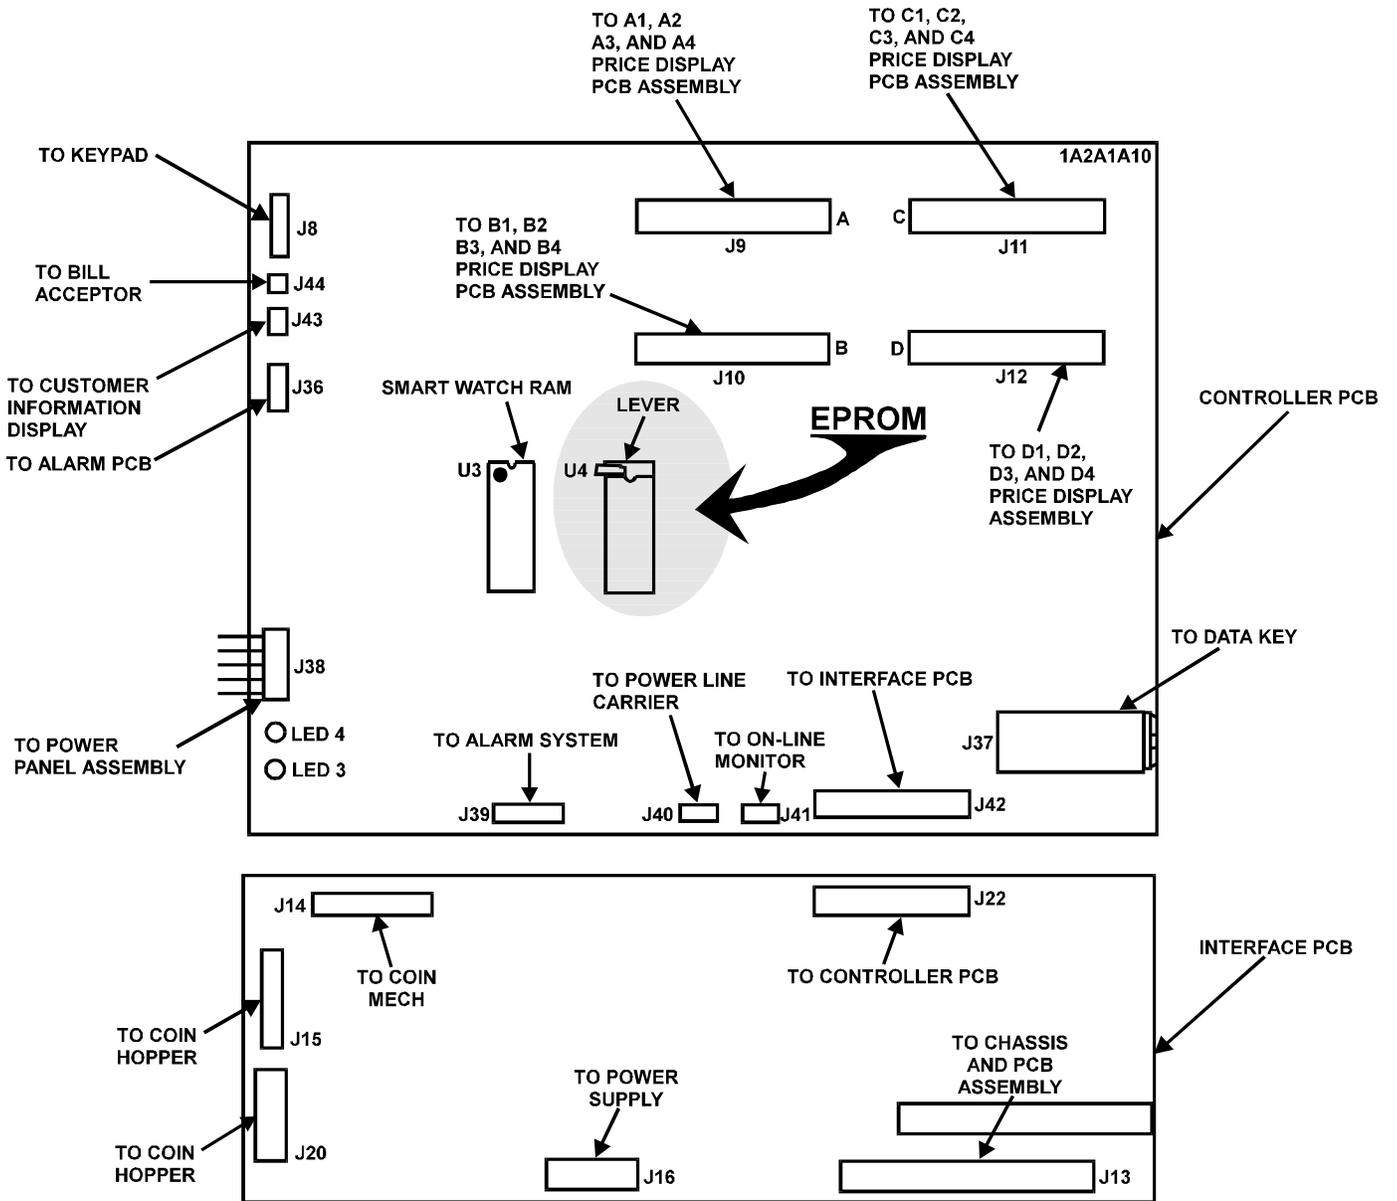

Figure 1
4. Carefully release the lever at the top of IC socket U4. This releases EPROM U4. Carefully pull the EPROM chip out of the socket (see figure 1).